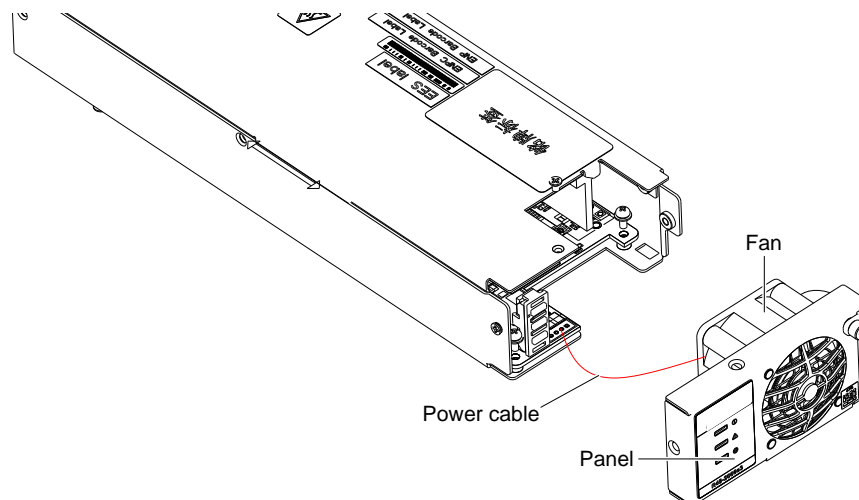

Figure 6-2 Rectifier fan Replacement
- As shown in Figure 6-2, loosen the two screws of the rectifier to remove the panel.